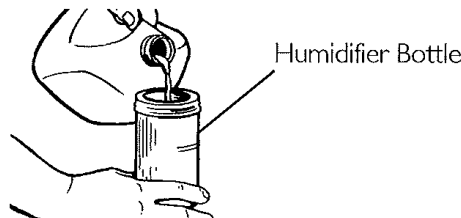
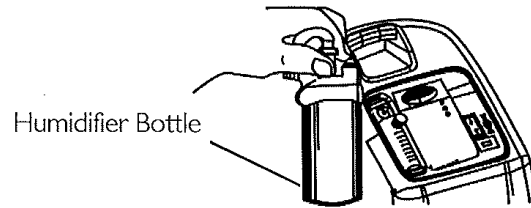
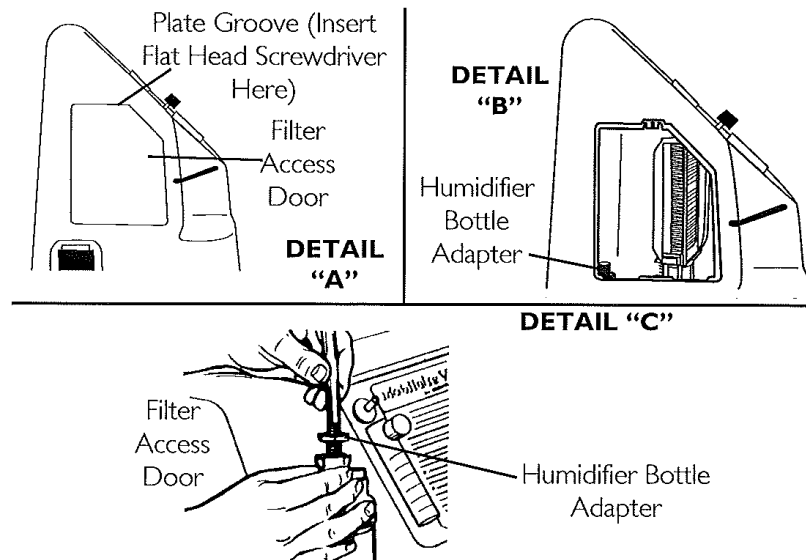
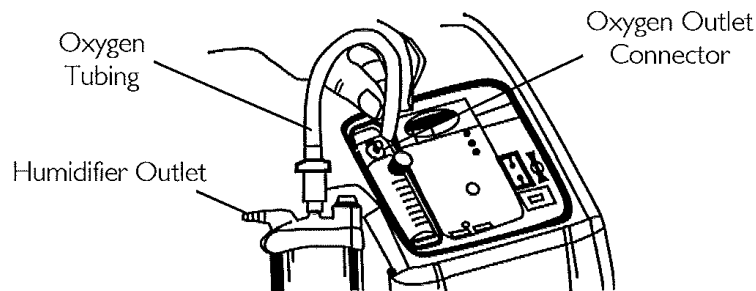

FIGURE 5.1 Filling the Humidifier
FIGURE 5.2 Humidifier Compartment
FIGURE 5.3 Attaching the Humidifier Bottle Adapter
FIGURE 5.4 Attaching the Oxygen Tubing
NOTE: For this procedure, refer to FIGURE 5.1, FIGURE 5.2 and FIGURE 5.3 on page 18 and FIGURE 5.4 on page 19.
3. Remove the filter access door located on the side of the concentrator. Insert a flathead screwdriver in the plate groove on the top edge of the filter access door and gently pry the filter access door open. Refer to Detail "A" in FIGURE 5.3.
4. The humidifier adapter is next to the inlet filter. Pull up and remove the humidifier bottle adapter. Refer to Detail "B" in FIGURE 5.3.
5. Attach it to the humidifier by turning the wing nut on the humidifier bottle counterclockwise until it is securely fastened. Refer to Detail "C" in FIGURE 5.3.
7. Attach oxygen tubing from the humidifier bottle to oxygen outlet connector on the oxygen concentrator (FIGURE 5.4).
8. Attach the cannula/patient supply tubing to the humidifier bottle outlet (FIGURE 5.4).